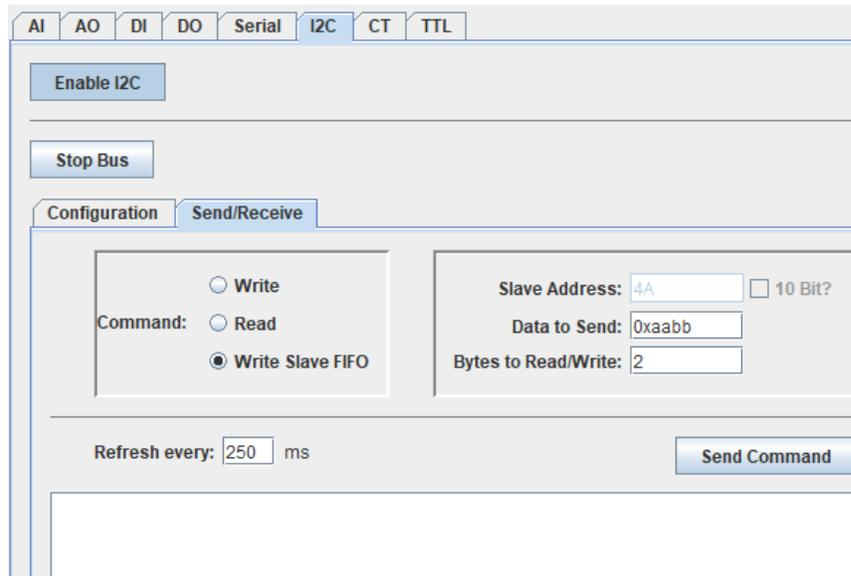

Figure 5-14 Write Slave FIFO Command
2. As shown in **Figure 5-14**, use the "Write Slave FIFO" command to write 0xAA and 0xBB to the slave TX FIFO. Click **Send Command**.